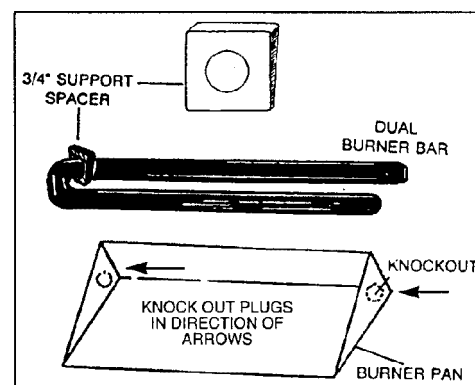

Figure 5. Burner bar placement
- Slide the 3/4" burner support spacer (Part # 10) over the Dual Burner Bar (Part #9) and move spacer to opposite corner of the gas intake connection. (See Figure 5)